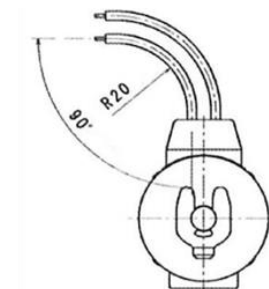

Figure 3. Lead wire bending
- Do not bend the lead wires beyond 90° with a radius of less than 20mm or damage may occur. See figure 3.